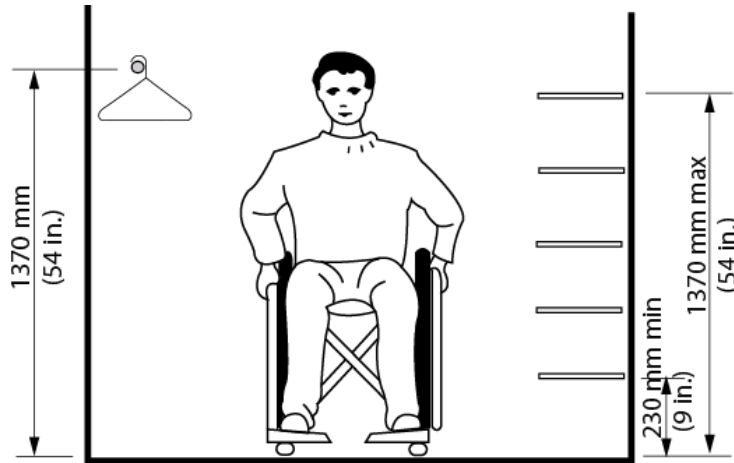

Figure 66: Reach Limits for Storage
- Upper storage shelves (not intended for accessible use) may be installed up to 1370 mm AFF as shown in Figure 66)